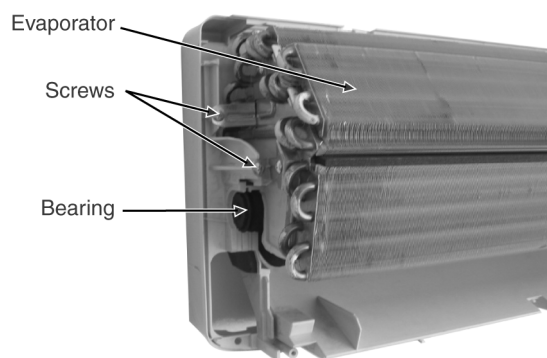

Fig. 11
- Remove the Bearing. (Fig. 11)
- Remove the screws at the left of the Evaporator. (Fig. 11)